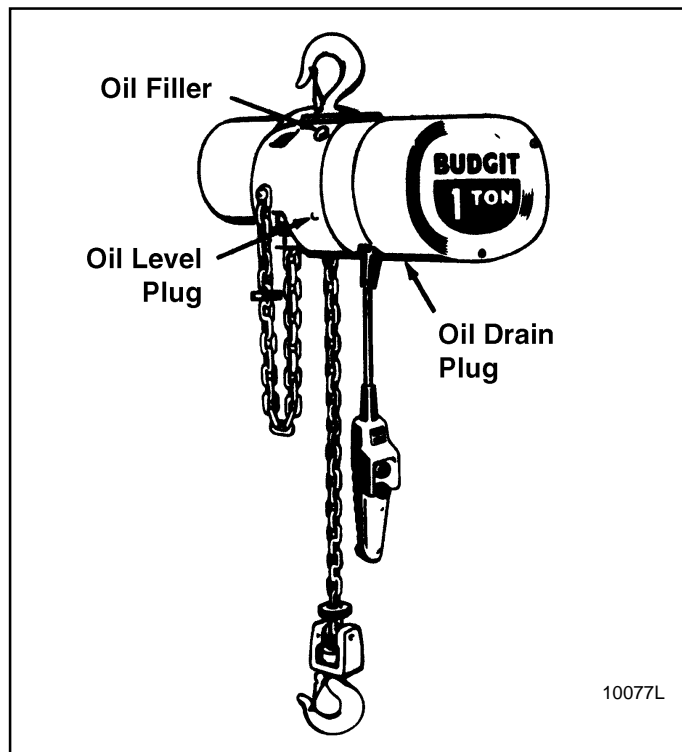

Figure 4-1. Location of Oil Filler and Plugs
### 4-2. CHANGE GEAR CASE OIL (Fig. 4-1).
(1) Check to see that bolts securing motor to frame are tight. Also check for any visible damage to motor, such as a cracked end bell or dented stator housing. Replace damaged parts.
(2) Check hoist frame for signs of visible damage. If frame shows evidence of fracture, the hoist should be disassembled and inspected for further signs of damage from possible overloading. Replace damaged parts.
(3) Check for possible damage to electrical compartment cover. Be sure screws holding cover are tight.
e. **Check Oil Level.** Remove oil level plug (fig. 4-1). If oil level is not even with bottom of tapped hole, add Automatic Transmission Fluid, DEXRON Type, to bring to proper level.